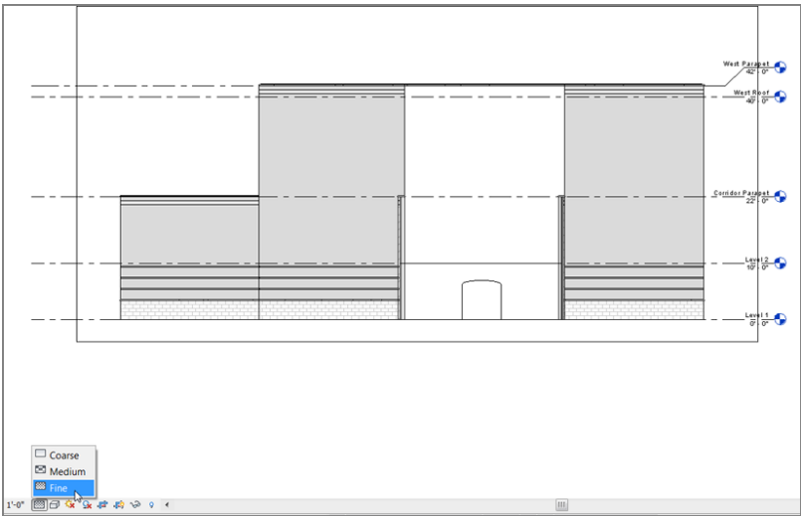

FIGURE 3.41: On the View Control bar, set Fine as the detail level.
10. Go back to the West Corridor Section, and clean up the levels so they're to the right of the building and the Parapet level isn't overlapping the level below (see Figure 3.41).
11. On the View Control bar, select Fine for the detail level, as shown in Figure 3.41. (Making adjustments like this to a view will become second nature to you very soon.)